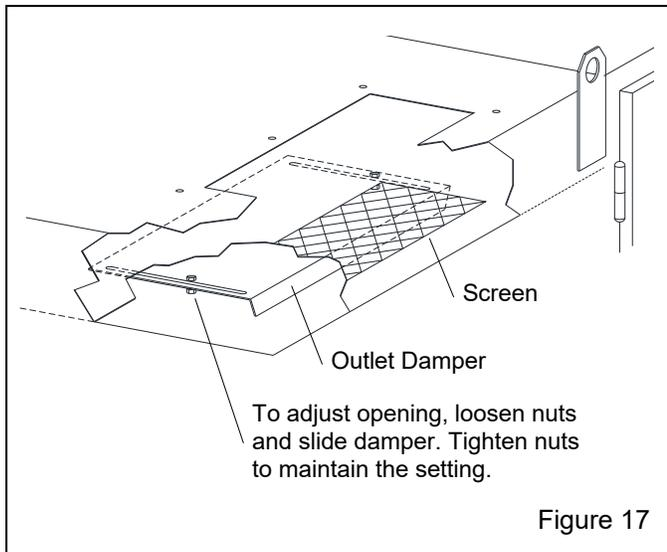

Figure 17
5.4.2 Adjust static pressure by opening or closing the outlet damper located above the reclaimer on the underside of the underside of the power module top; as shown in Figure 17. If the damper is not opened far enough, the reclaimer will not remove fines, resulting in dusty media and poor visibility, or will not convey media, causing media buildup in the hose between the cabinet hopper and reclaimer. If the damper is opened too far, it may cause carry over (usable media carried into the dust collector) and result in excessive media consumption. Open only as far as necessary to obtain a balance of maximum dust removal without media carry over.